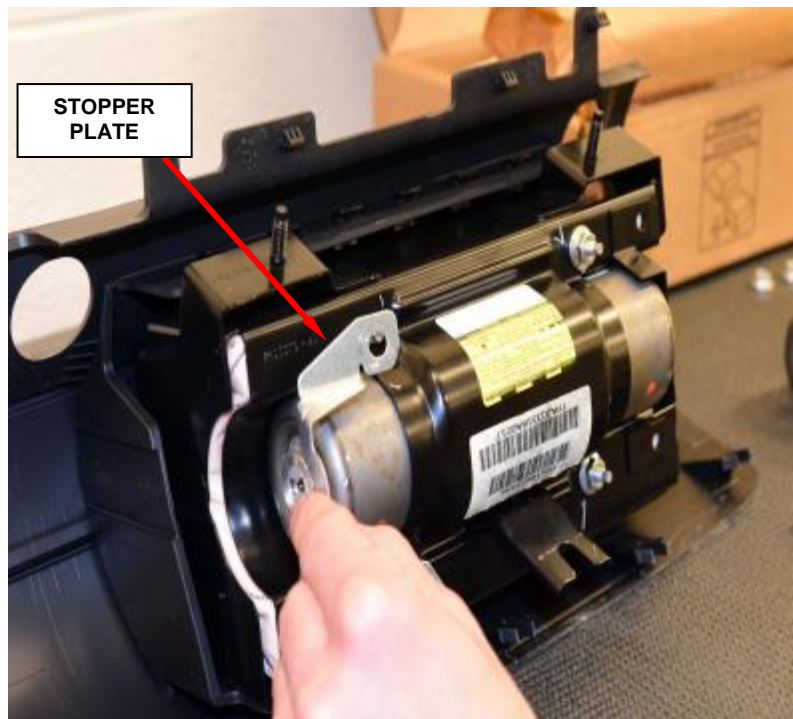

Figure 114 – Stopper Plate
c. Remove and save the stopper plate from the passenger airbag module (Figure 114).